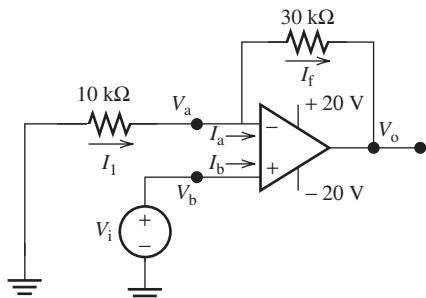

FIGURE P8.70 Circuit for Problem 8.70.
8.70 (B)* Consider the circuit shown in Figure P8.70. Find the following: